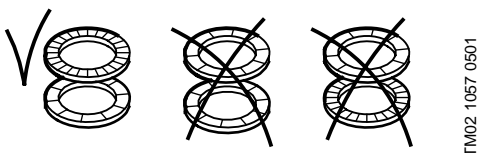

Fig. 3 Fitting the lock washers
7. Place the distance piece (pos. 651) and the lock washers (pos. 656) on the shaft in the centre of the inner drive.
8. Fit the nut (pos. 657) on the shaft, and tighten it.
12. The two measurements must differ by 1.5 to 2.5 mm (measurement 2 minus measurement 1). If the difference is greater, select a spacer ring (pos. 662). Subtract the thickness of the spacer ring from the difference to obtain a difference between 1.5 and 2.5 mm.
14. Fit the spacer ring (if required) and new O-rings (pos. 109) on the bearing housing, lubricate the O-rings with Rocol, and fit the bearing housing in the pump head.
17. Fit the distance piece, lock washers and nut on the shaft. Figure 3 shows the correct fitting of the lock washers.